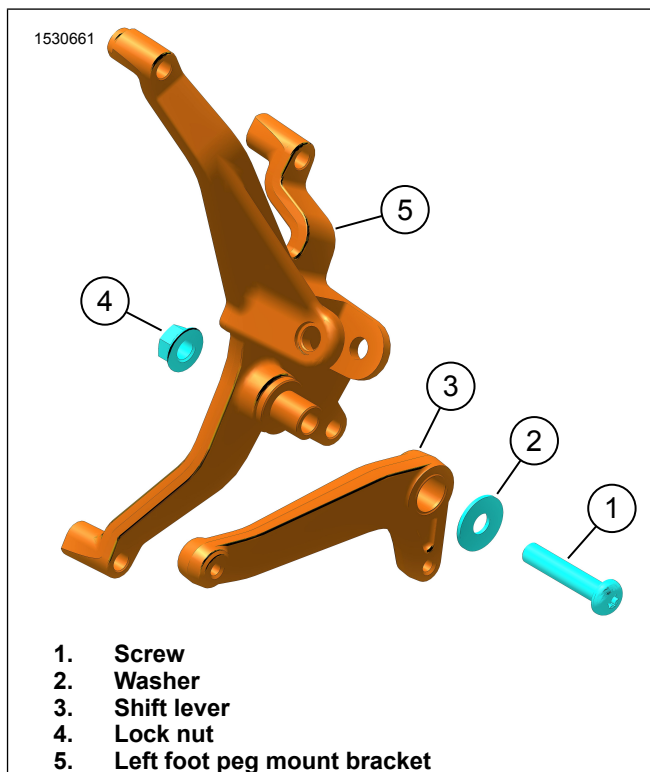

Figure 6. Clutch Shift Lever Assembly
1. See Figure 6. Install shift lever (3) to left foot peg mount bracket (5).
2. Install washer (2) and screw (1).
3. Install lock nut (5). Tighten.